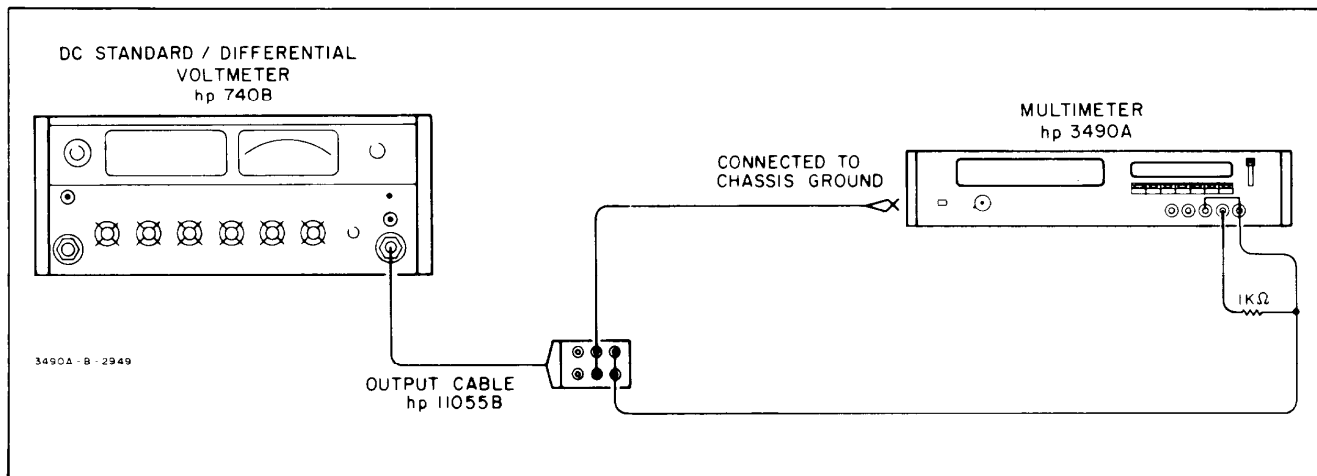

Figure 5-2. DC Common-Mode Rejection Test.
a. Connect a 1 kΩ resistor between input High and Low terminals, and connect High to Guard as shown in Figure 5-2.